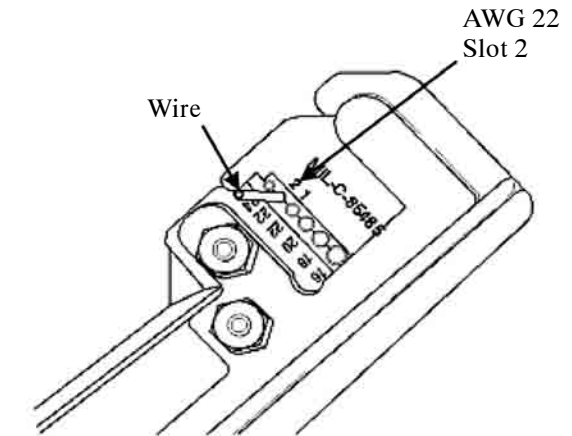

Figure 7. Step Stripping Primary Insulation AWG 22
(4) Using the 22 AWG hole with the "2", remove the primary insulation, exposing the conductor (Figure 7).